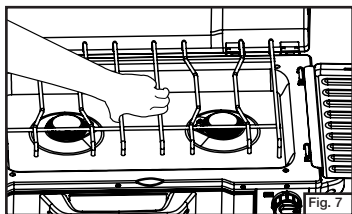

Fig. 7
- Install the grate as shown. (Fig. 7)